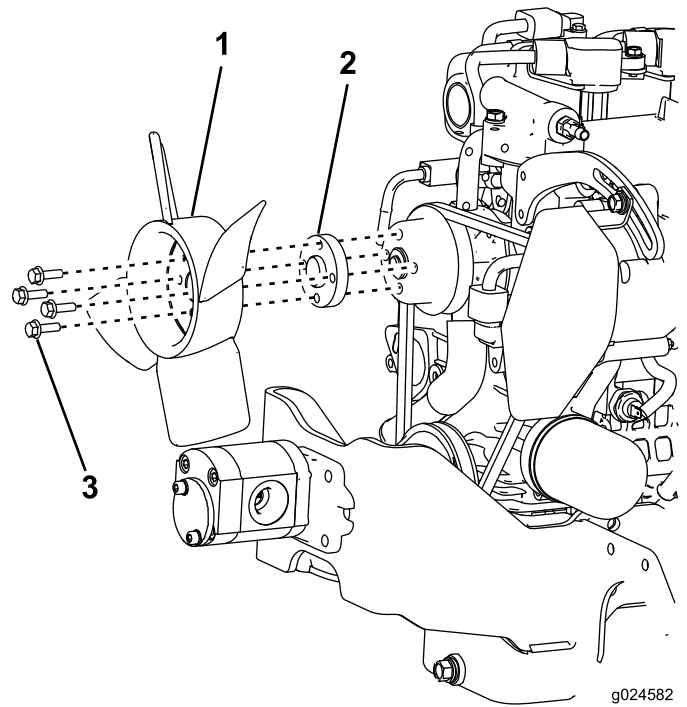

Figure 7
2. Install the fan collar and fan onto the pulley; refer to Figure 7.